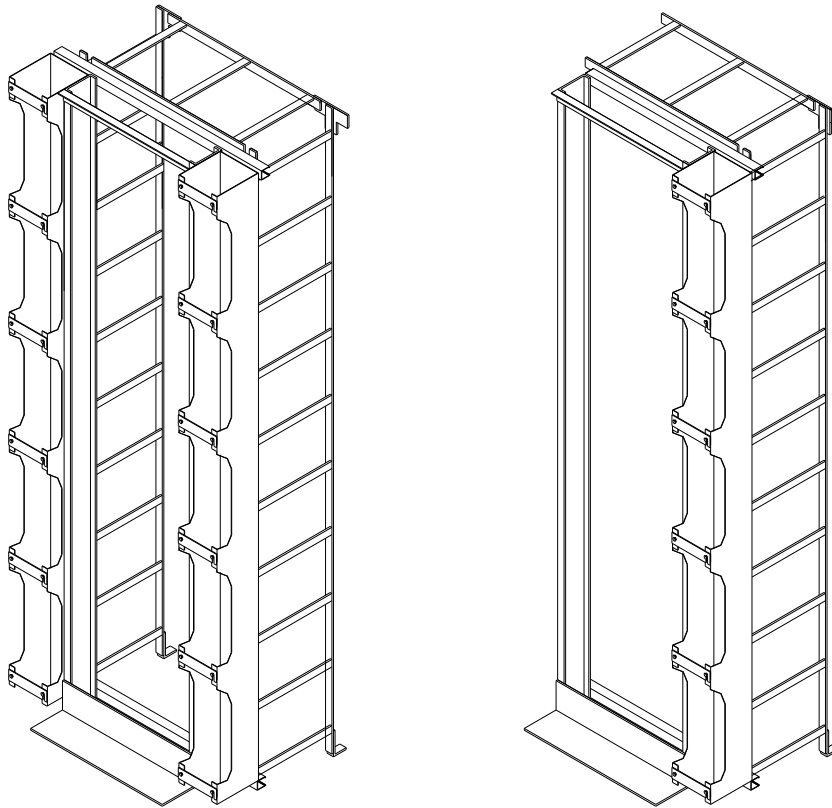

Figure 28 1100-A – Isometric View of Communications Racks
- A. Equip communication racks with cable ladder system for cable support and routing. Refer to Figure 28 110-A below.